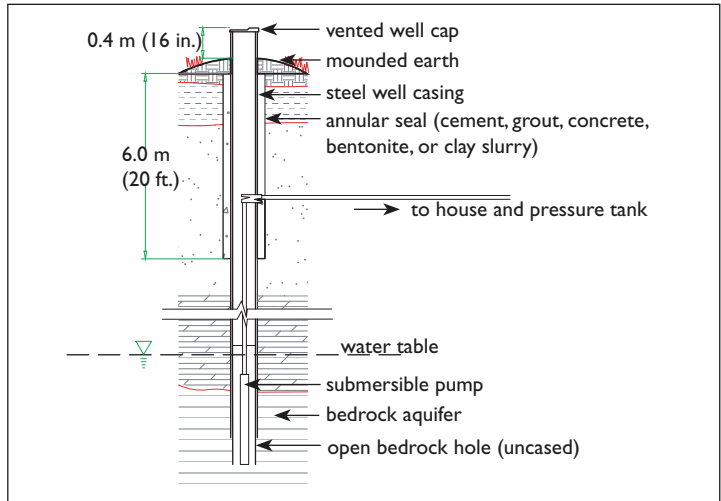

Figure 2: Drilled Well
**Drilled wells** (10-20 cm/4-8 in. diameter) are commonly used to penetrate deeper aquifers (15 to greater than 60 m/50 to greater than 200 ft. deep), are more costly to construct, but generally provide a safer source of drinking water (see Figure 2).